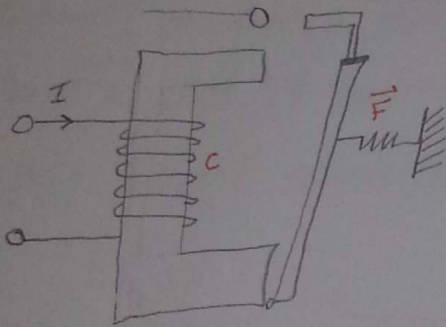

Fig. 1
- operation of electro mechanical relay based on Force between electro magnet & armature parts to open & close the circuit as shown in Fig. 1